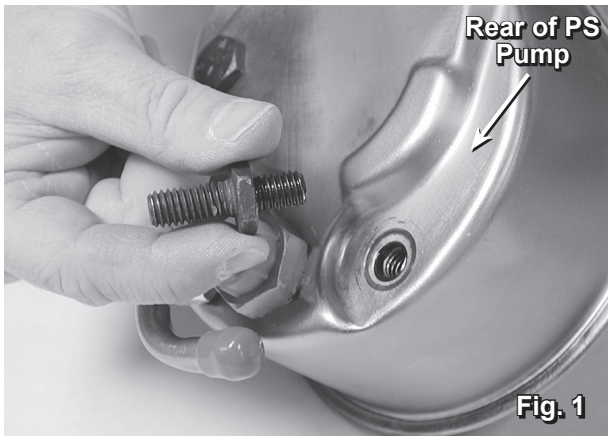

Fig. 1
1. If your power steering pump came equipped with a mounting stud at the rear of the pump use a $1\frac{1}{16}$ " wrench to remove the mounting stud from the pump unit (fig. 1).